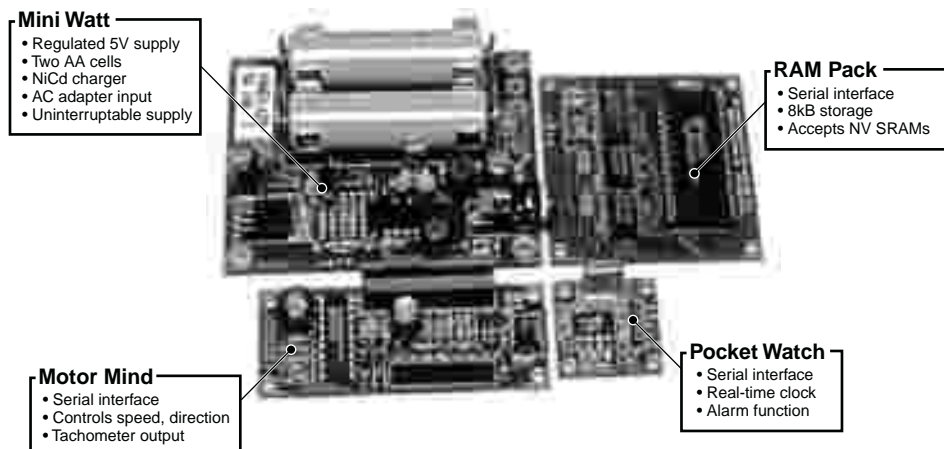

Figure 3. Mini-Mods family of Stamp-friendly peripherals.
**New Stamp Peripherals.** Solutions Cubed, a California electronic-design firm that does new-product development, has rolled out four new modules designed to work well with the Stamps. They recently sent me samples of their four Mini-Mod (miniature engineering module) products for evaluation. Figure 3 is a family portrait. Three of the modules are serially interfaced peripherals that serve mass storage, timekeeping, and motor-control functions. The fourth is a smart power supply that derives regulated 5V from a pair of AA batteries. Prices range from \$25 to \$30.